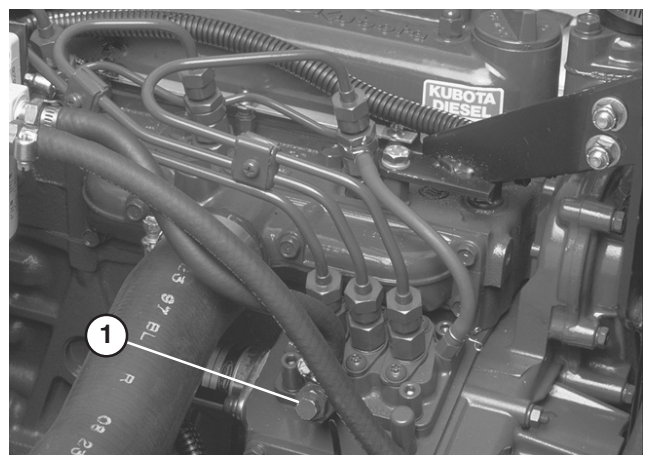

Figure 29
3. Open the air bleed screw on the fuel injection pump (Fig. 29) with a 12 mm wrench.